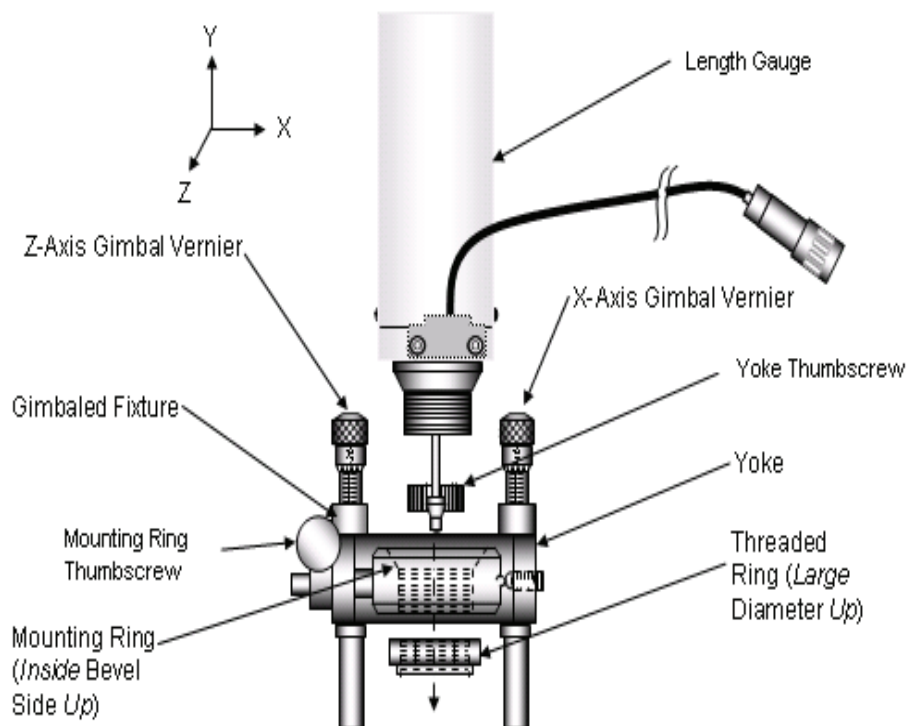

Figure 2. Gimbaled fixture and length gauge.
e. Loosen mounting ring thumbscrew (fig. 2). Adjust mounting ring until the length gauge shaft is in direct vertical alignment with the TI shaft. Tighten mounting ring thumbscrew.
f. Loosen yoke thumbscrew and adjust Yoke (fig. 2) so that the length gauge shaft is in direct vertical alignment with the TI shaft. Tighten yoke thumbscrew.
h. Adjust X-Axis Gimble Vernier (fig 2) to highest value reading on length gauge indicator. Repeat for Z-Axis Gimble Vernier (fig 2). Repeat as necessary for best possible setting.